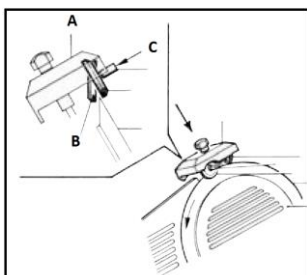

Figure 15
1. Lift the sharpener up (Fig.15-A) and rotate it clockwise at 180°. Push downward until the sharpening stone gets in contact with the blade (Fig.15-B) .
3. To eliminate the deburring push the deburring stone (Fig.15-C) for approximately 2 seconds.